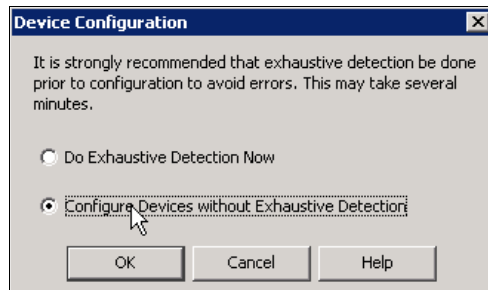

Figure 18-11 Do not use Exhaustive Detection
13.Ensure that Exhaustive Detection is not used (Figure 18-11).